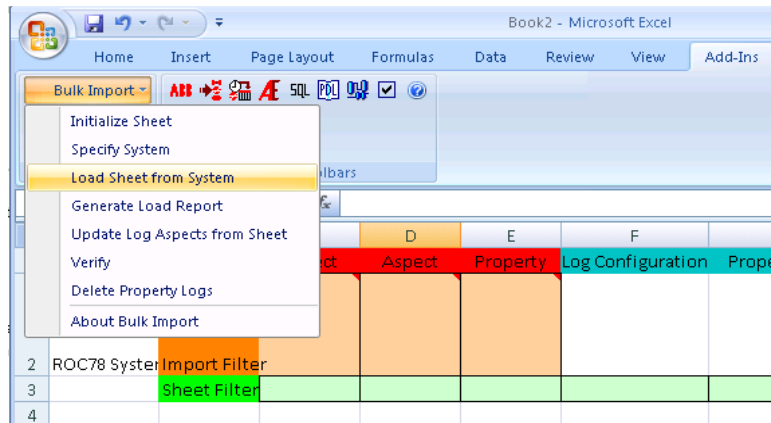

Figure 175. Loading the Spreadsheet with Object Properties
4. When finished with the import filter specification, choose **Bulk Import>Load Sheet from System**, Figure 175.